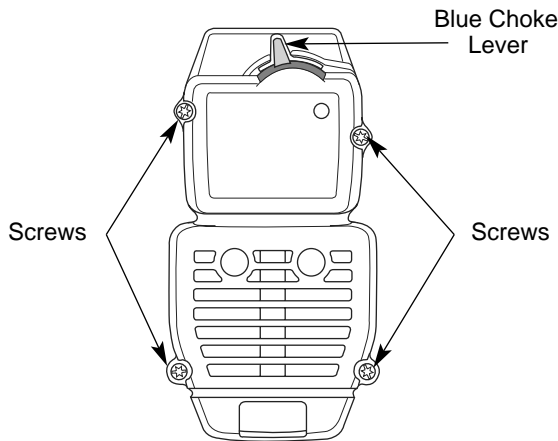

Fig. 24
2. Remove the four (4) screws securing the air filter/muffler cover (Fig. 24). Use a flat blade or T20 Torx bit screwdriver.
2. Insert the four (4) screws into the holes in the air filter/muffler cover (Fig. 24) and tighten. Do not over tighten.